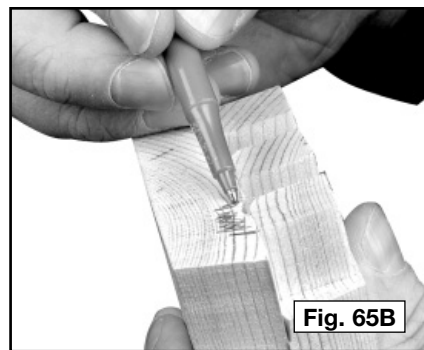

Fig. 65B
- Step 3** - Hold the outside surfaces of the boards together and mark the pin board at the edges of the tail (Fig. 65B).